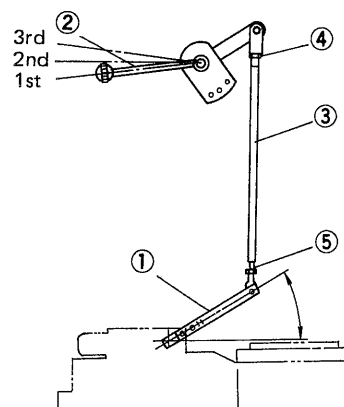

Fig. 27
Determine neutral position of F-R lever (2) by adjusting length of rod (3). Let F-R lever (2) and motor lever (1) remain in neutral position. Loosen lock nut (4) or (5), remove clevispin and rotate clevis as needed. (Fig. 27)